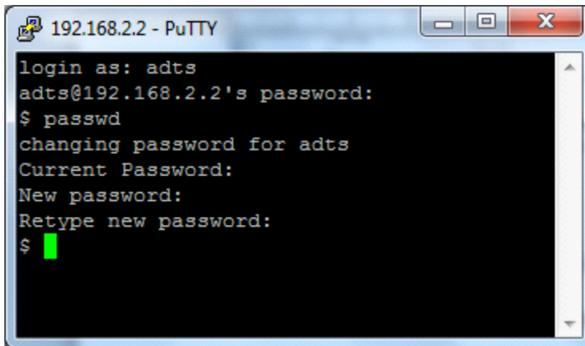

Figure 4-10: Changing the Default Password
- f. Follow the screen prompts by Enter the existing password followed by the new password and further confirmation entry. The results of a successful change should look like the PuTTY window in Figure 4-10.